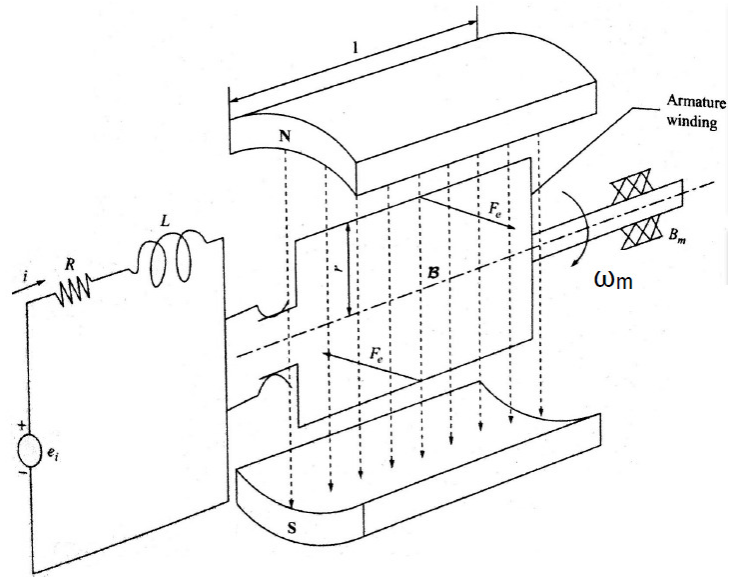

Figure 1: DC motor sketch.
a) A reasonable physical model, as sketched in Figure 1, consists of representing an armature coil, through which a current i flows, as a resistor and an inductance plus an additional voltage drop proportional to the angular velocity ω_m . b-c) Since \mathbf{i} is always perpendicular to \mathbf{B} , then $F_e = ilB$. Applying F_e twice on each winding, the torque is $T = 2NF_e r = Ki$, where $K = 2NlBr$. While since also the velocity \mathbf{u} is perpendicular to \mathbf{B} , the back electromotive force $e_m = \omega_m lBr$, applied on each winding: $e_m = 2NlBr\omega_m = K\omega_m$. The motor constant K is clearly dependent on the geometry of the motor: N, l, r but also on the physics of it: B . Using Kirchhoff law and torque equilibrium the system has been modelled like: